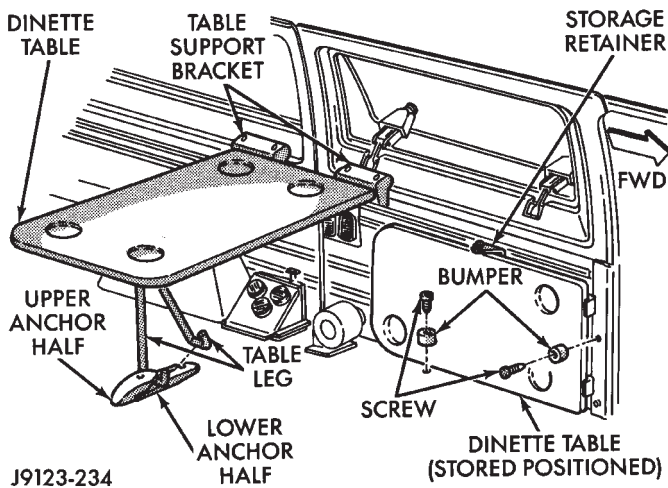

Fig. 21 Side window Defroster Tubes
(1) Remove the instrument panel from the dash panel. Remove the defroster tubes from the ducts (Fig. 21).